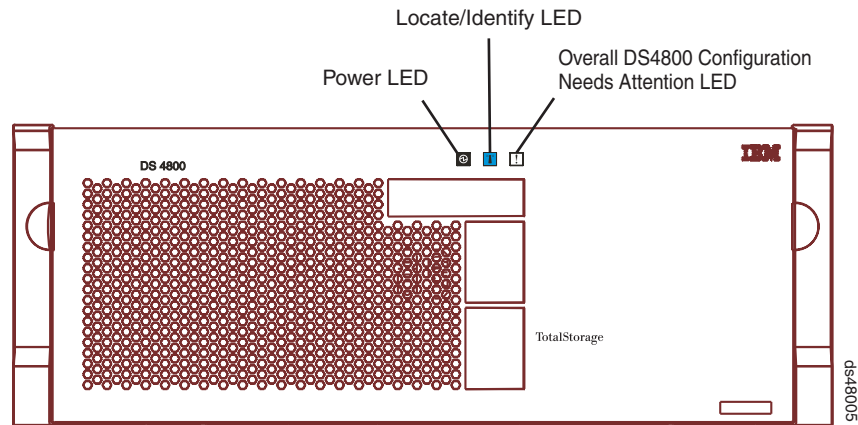

Figure 97. Overall DS4800 Configuration Needs Attention LED on the DS4800 front bezel
2. Locate the storage subsystem that contains the interconnect-battery unit with the failed battery by checking the Overall DS4800 Configuration Needs Attention LED on the front bezel of the storage subsystem. (Figure 97 on page 161 shows the location of the Overall DS4800 Configuration Needs Attention LED on the front bezel.)